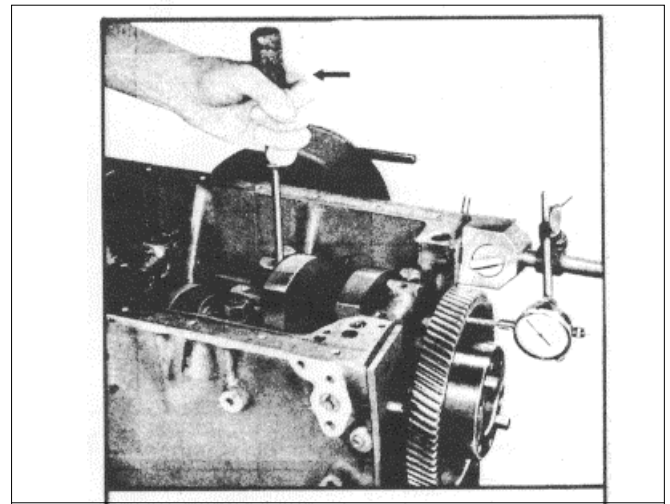

Fig. 9. Checking Crankshaft End Play
- (7) Check the crankshaft end play by moving the crankshaft toward the gauge (Fig. 9) with a pry bar. Keep a constant pressure on the pry bar and set the dial indicator to zero. Then remove and insert the pry bar on the other side of the bearing cap. Force the crankshaft in the opposite direction and note the amount of end play on the dial. The end play should be .004" to .014" with new parts or a maximum of .018" with used parts. Insufficient end play can be the result of a misaligned rear main bearing or a burr or dirt on the inner face of one or more of the thrust washers.
- (8) Install the cylinder liner, piston and connecting rod assemblies (SM6-5-22.0).
- (9) Install the cylinder head (SM6-5-5.0).
- (10) Install the flywheel housing (SM6-5-18.0), then install the flywheel (SM6-5-16.0).
- (11) Install the crankshaft front cover and gasket.